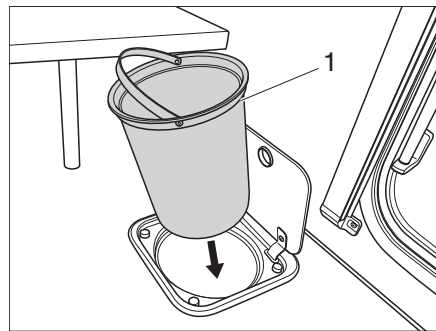

Fig. 159 Waste bin in kitchen
- Remove the waste bin (Fig. 159,1) using the handle and empty in accordance with the applicable regulations.